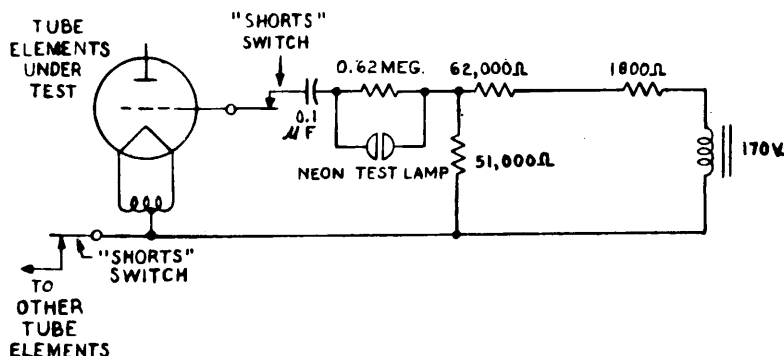

Fig. 1 - Shorts Test Circuit
2.16 SHORTS Test Switch: On a 6-position selector switch designated SHORTS, five steps are provided to make short-circuit tests between various electrodes of the tube under test, using the neon lamp test circuit indicated in Fig. 1. This shorts test may be made with the tube filament (or heater) on or off, but usually is made with the filament (or heater) heated. In the sixth position labeled TUBE TEST the neon lamp short test circuit is disconnected and the tube under test is connected for indicated transconductance, cathode (filament) activity, and other tests.